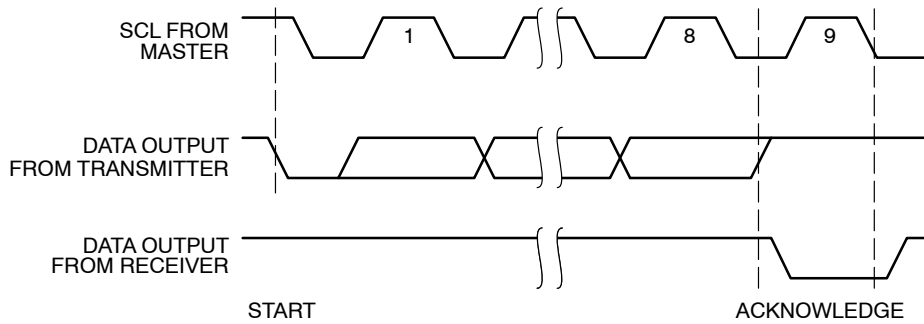
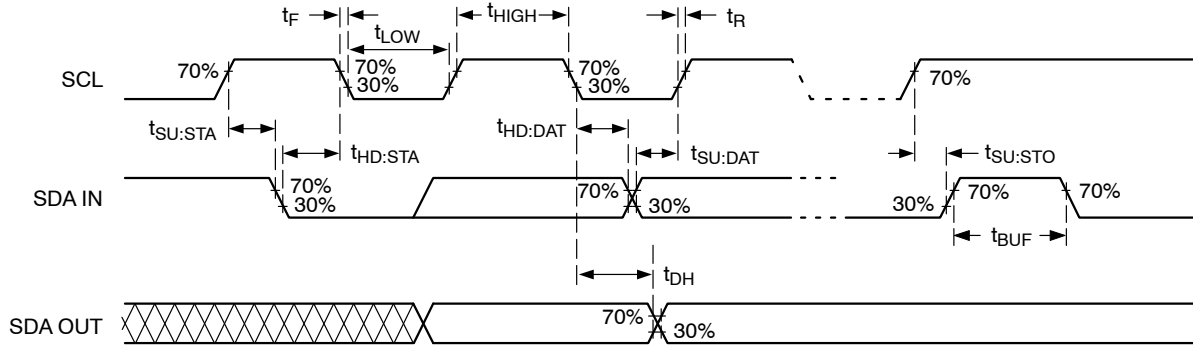

Figure 4. Acknowledge Timing
Figure 5. Bus Timing
5. Timing reference points are set at 30%, respectively 70% of V_{CC} , as illustrated in Figure 5. Bus loading must be such as to allow meeting the V_{IL} and V_{OL} as well as all other timing requirements. The minimum clock frequency of 10 kHz is an SMBus recommendation; the minimum operating clock frequency is limited only by the SMBus time-out. The device also meets the Fast and Standard I²C specifications, except that T_i and t_{DH} are shorter.
A matching Slave address is acknowledged (ACK) by the Slave by pulling down the SDA line during the 9th clock cycle (Figure 4). After that, the Slave will acknowledge all data bytes sent to the bus by the Master. When the Slave is the transmitter, the Master will in turn acknowledge data bytes in the 9th clock cycle. The Slave will stop transmitting after the Master does not respond with acknowledge (NoACK) and then issues a STOP. Bus timing is illustrated in Figure 5.